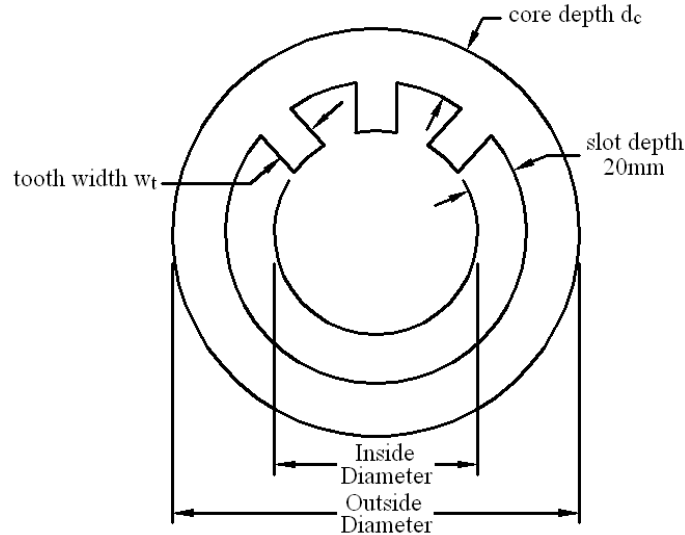

Figure 1.
- c. The 24-slot stator for the above motor has slots of radial depth 20mm and parallel-sided teeth, as shown in Figure 1 (given on next page). Assuming an airgap length of 0.5mm and that no part of the lamination should have a flux density greater than 1.4 T, use reasonable approximations to calculate the tooth width, the core depth, and the inside and outside diameters of the stator.